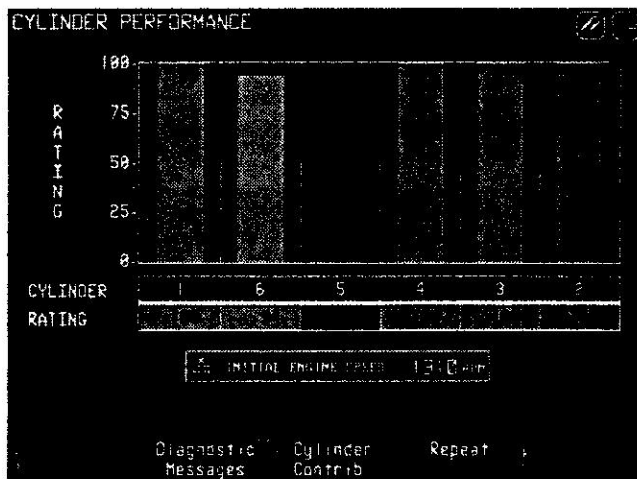

Figure 2-24
3. When the analyzer is finished collecting data, the *Cylinder Performance* data screen appears (see Figure 2-24).